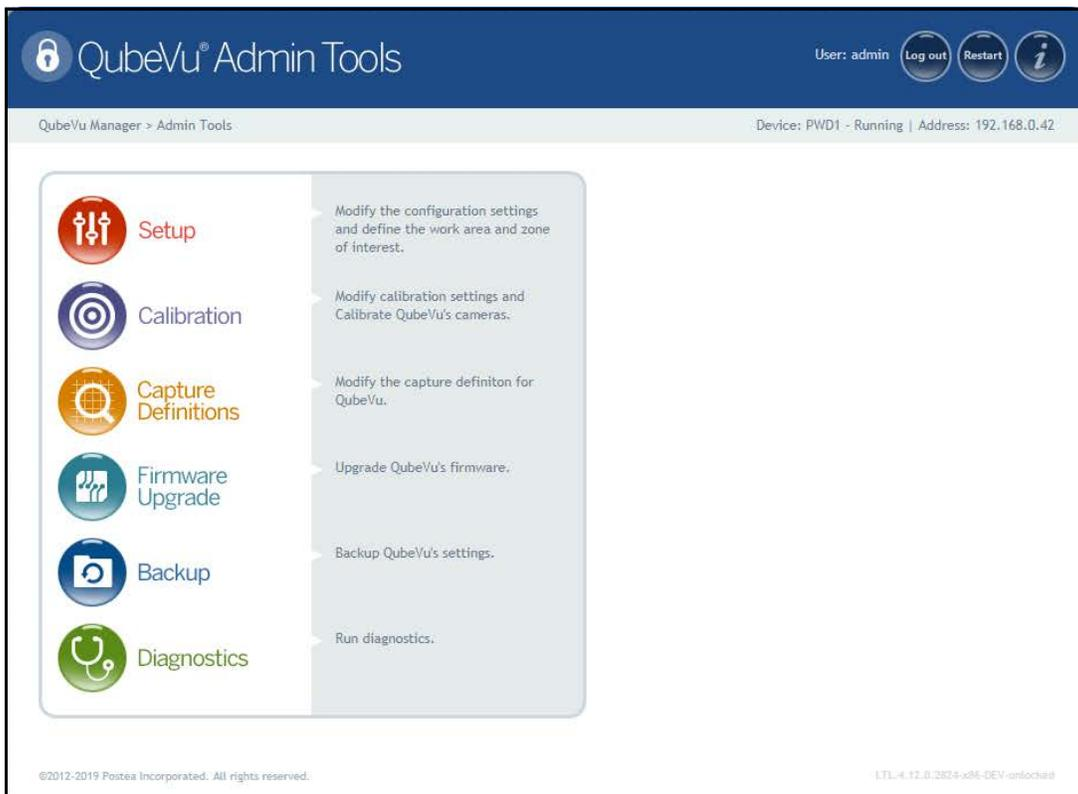

Figure 5-1. Admin Tools Menu
3. Press  **Setup** from the **Admin Tools** menu (Figure 5-1 on page 16) to enter the **Setup** menu.